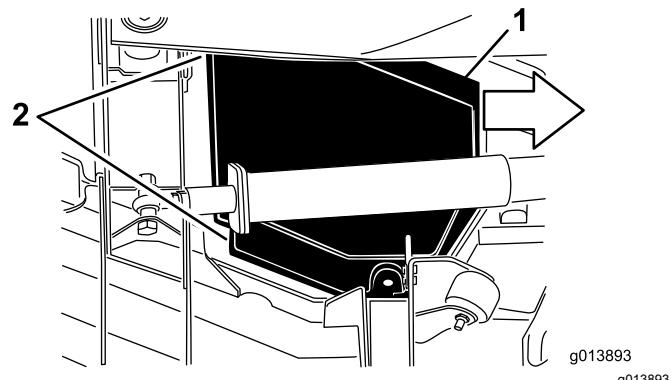

Figure 67
5. While lifting the cover, slide it toward the traction unit approximately 2.5 cm (1 inch), to disengage the outer cover edge from the deck (Figure 67).